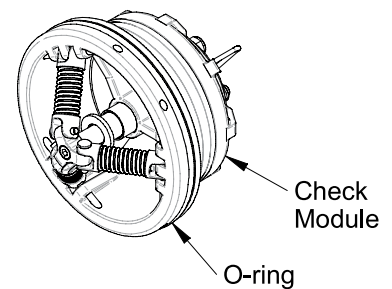

Figure 3
3. Remove the check-retaining spacer from the body. Pull check module straight out of body. The check module is sealed in place with an o-ring. (See Figure 3)